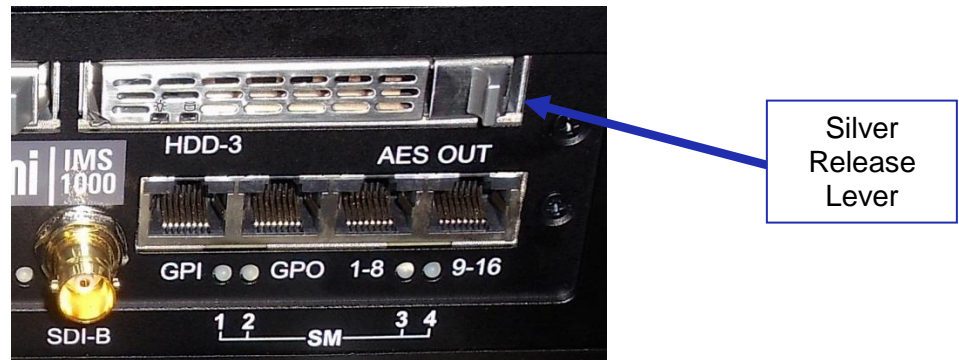

Figure 69: Silver Latch on HDD
- Each HDD has a silver latch mechanism that allows for unlatching of the drive from the hard drive cage (Figure 69).
- For each HDD, press on the silver release lever on the front side in order to release the spring loaded HDD carrier handle (Figure 69).